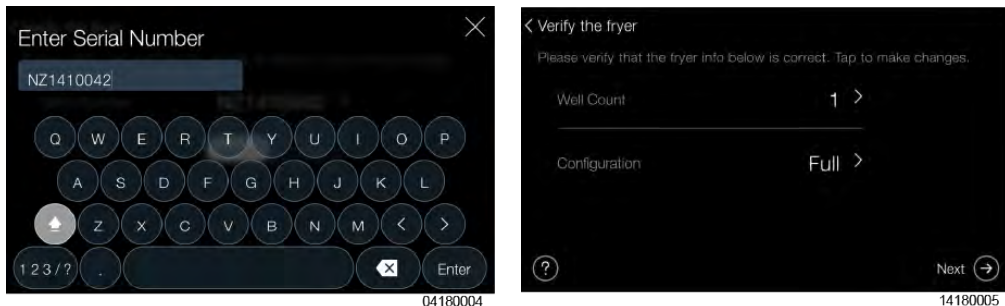

Figure 3-2
- 4) Use the on screen keyboard to type your serial number. See Figure 3-2, page 12 and Figure 2-4 Data Plate Location, page 9 to locate and enter the serial number on your fryer.